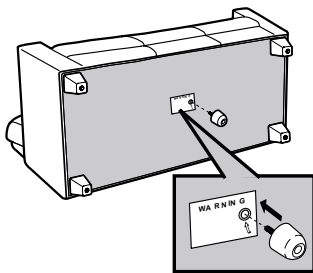

Fig. 3
- mount the central feet, if provided, in the positions shown by the labels that you will find on the sofa's base. **Failure to mount these feet could compromise the resistance of the wooden structure.** **Fig. 3**